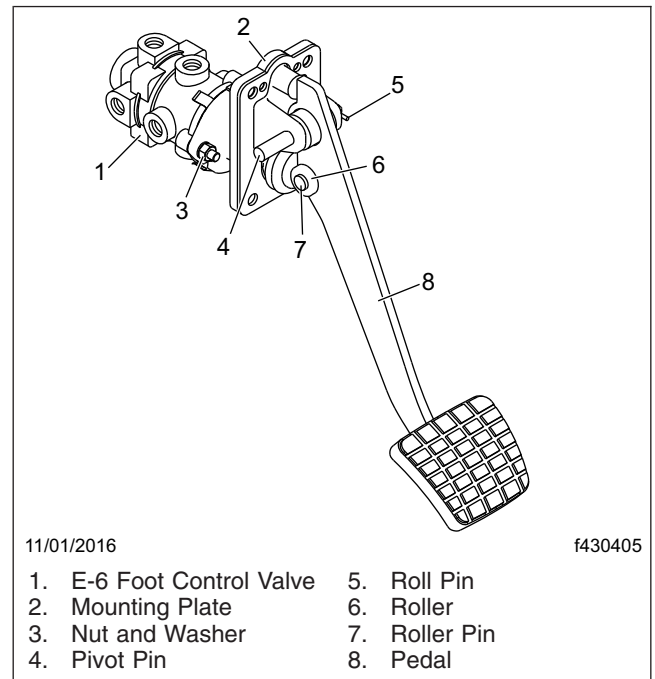

Fig. 15, Brake Pedal and Valve Assembly
2. Remove the roll pin from the brake pedal pivot pin. See **Fig. 15**.